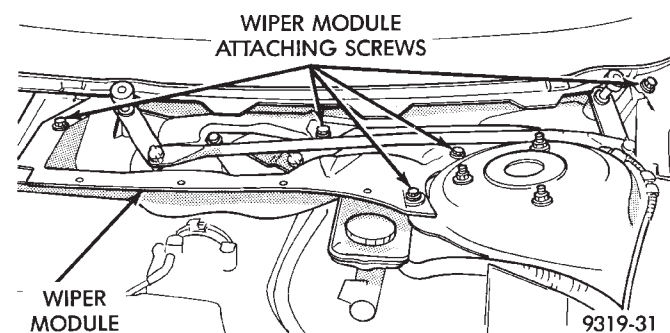

Fig. 6 Wiper Module Assembly Attaching Screws
(10) Remove the 5 screws attaching wiper module assembly to vehicle cowl panel (Fig. 6). Then remove wiper module from cowl panel.